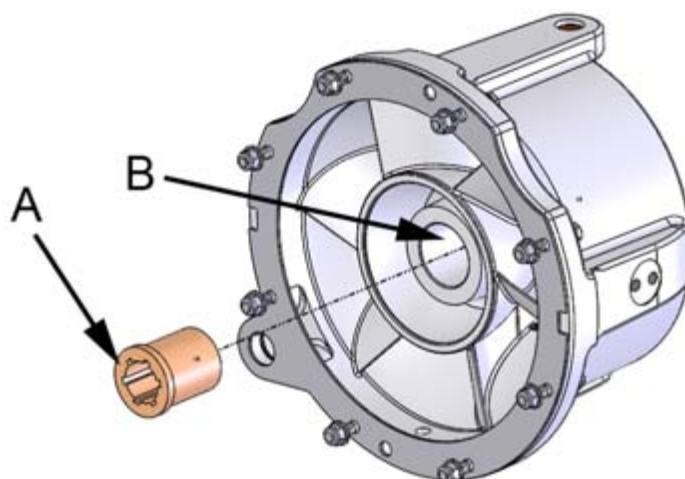

Figure 40. Installing the water-lubricated bearing
2. Place the water-lubricated bearing in the hole on the stator (figure 40, point B).
Use as much of the bearing's outfacing surface area for pushing as possible (figure 40, point A).
4. Remove excess waterproof grease from the hole (figure 40, point B).